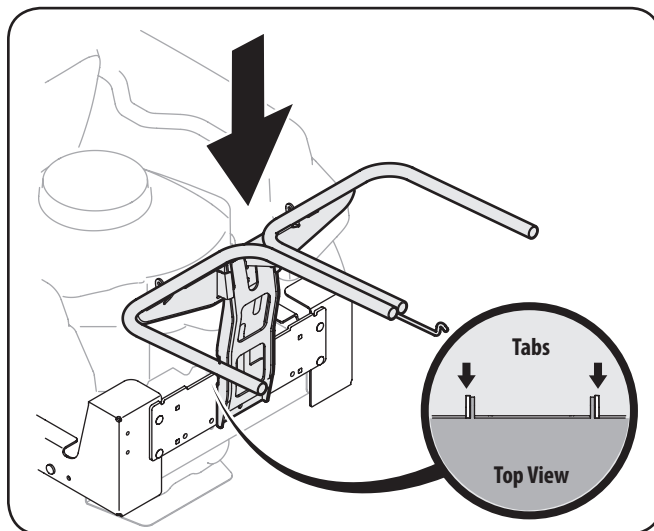

Figure 4-6
3. Install the bagger hanger assembly onto the mounting assembly on the tractor by hooking it over the hitch plate between the two tabs. See Fig. 4-6.